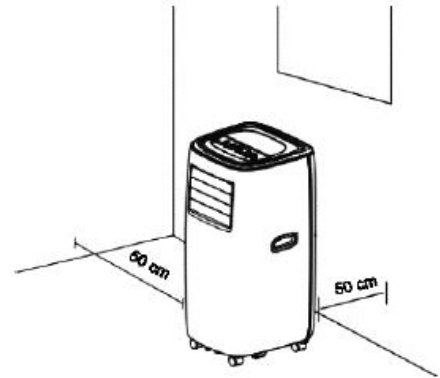

Fig. 3
3. Make sure that the unit is in a vertical position and that there are no obstacles on the inlet and outlet grilles (Fig. 3).